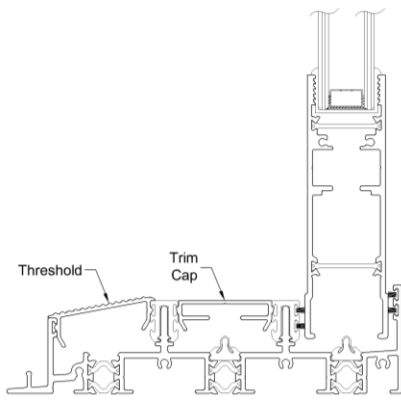
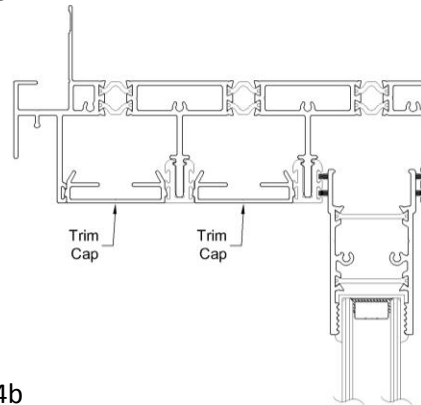

Figure 14b
Figure 14c
24. Install the threshold into the exterior sill track shown in figure 14b and the trim cap of the same length into the exterior head track shown in figure 14c.